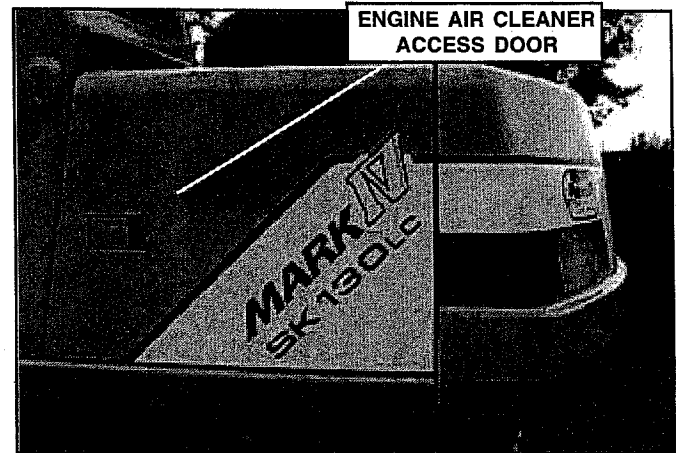

FIGURE 4.24
1. Open L.H. Access Panel to gain access to the Engine Air Filter. See Figure 4.24. Secure door open with door lock bar while performing maintenance.